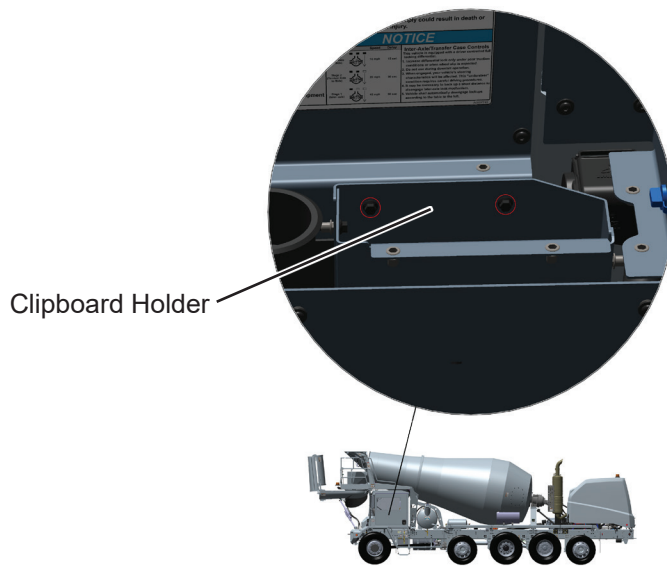

Figure 10
16. Remove two screws and washers securing clipboard holder. See Figure 10. Save screws and washers for reinstallation of clipboard holder side console cover.